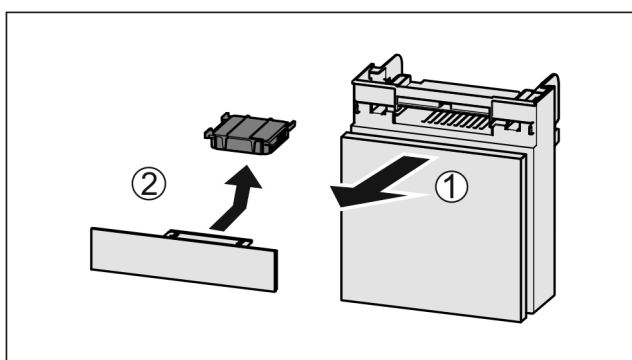

Fig. 102
- Pull out the compartment Fig. 102 (1).
- Remove the carbon filter Fig. 102 (2).